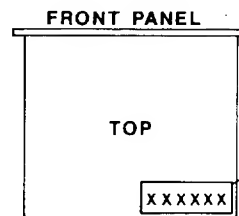

Figure 6. System Configuration Label
4. On the top cover is a System Configuration Label. Use it to indicate the module type, configuration, and any options for future reference. Write directly on the label with a permanent marker. Refer to Figure 6 for a display of this sample label.